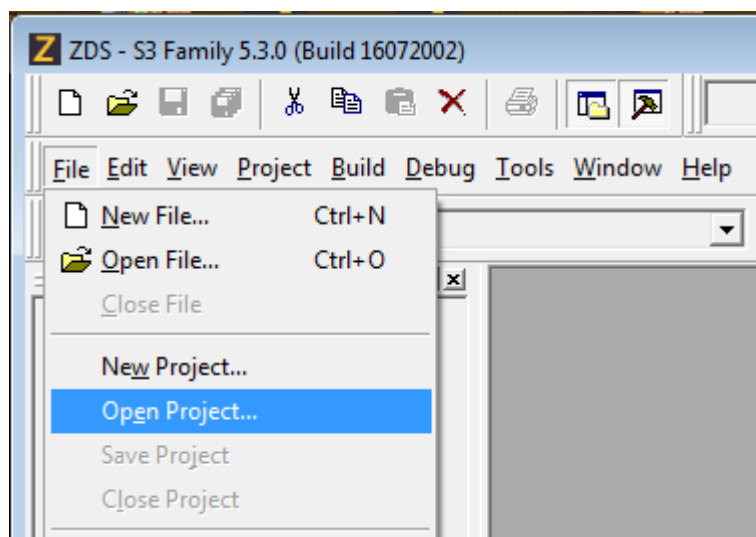

Figure 6. The Open Project Selection in the File Menu
2. From the **File** menu in ZDSII, select **Open Project** as indicated in Figure 6, and navigate to the following filepath: